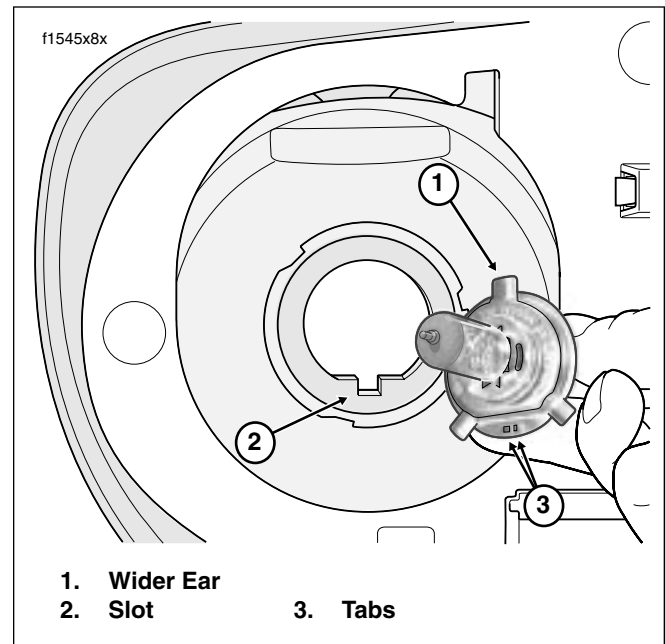

Figure 8-30. Install New Bulb in Bulb Housing
1. Install **new** bulb in bulb housing. Orient bulb so that wider ear on backplate is topside and then push bottom of backplate so that tabs on outboard side fit snugly in slot of bulb housing. See Figure 8-30.